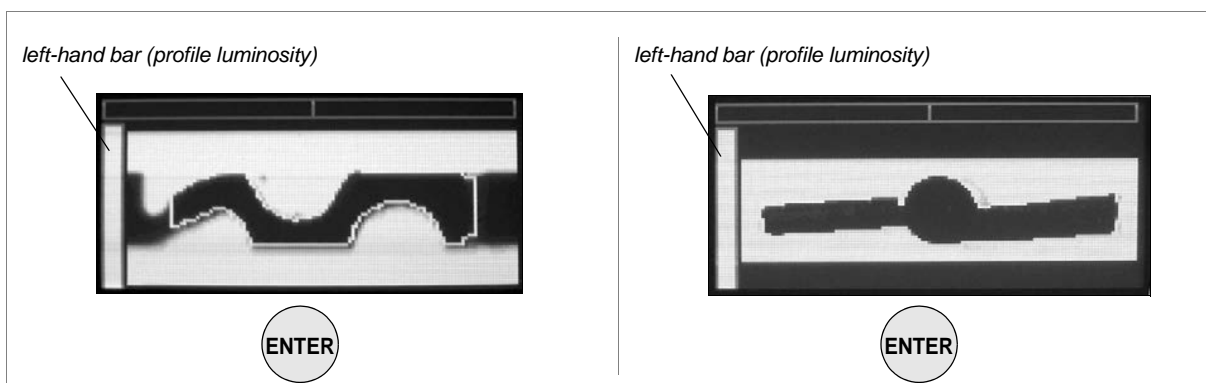

Fig. 23
- 3) For bit keys make sure the key head is aligned horizontally (see fig. 23, page 18).
- Then, turn the clamp/key slightly to the left or right until the top bar shows a thin line (fig. 23). Make sure the profile outline is well defined with reference to the “profile luminosity bar”.